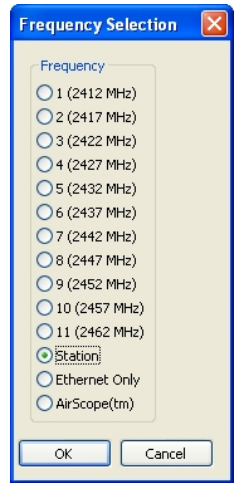

Figure 23: Station
1. Starting a new network of ESTeem 195C/Ms in Mobile Client mode is the same as any of the Bridge modes except when you are asked for the frequency (channel) of operation, select “Station” (Figure 23).